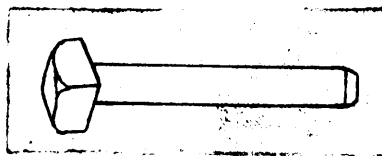

Figure 9.
10. The completed bolt. (Figure 9).